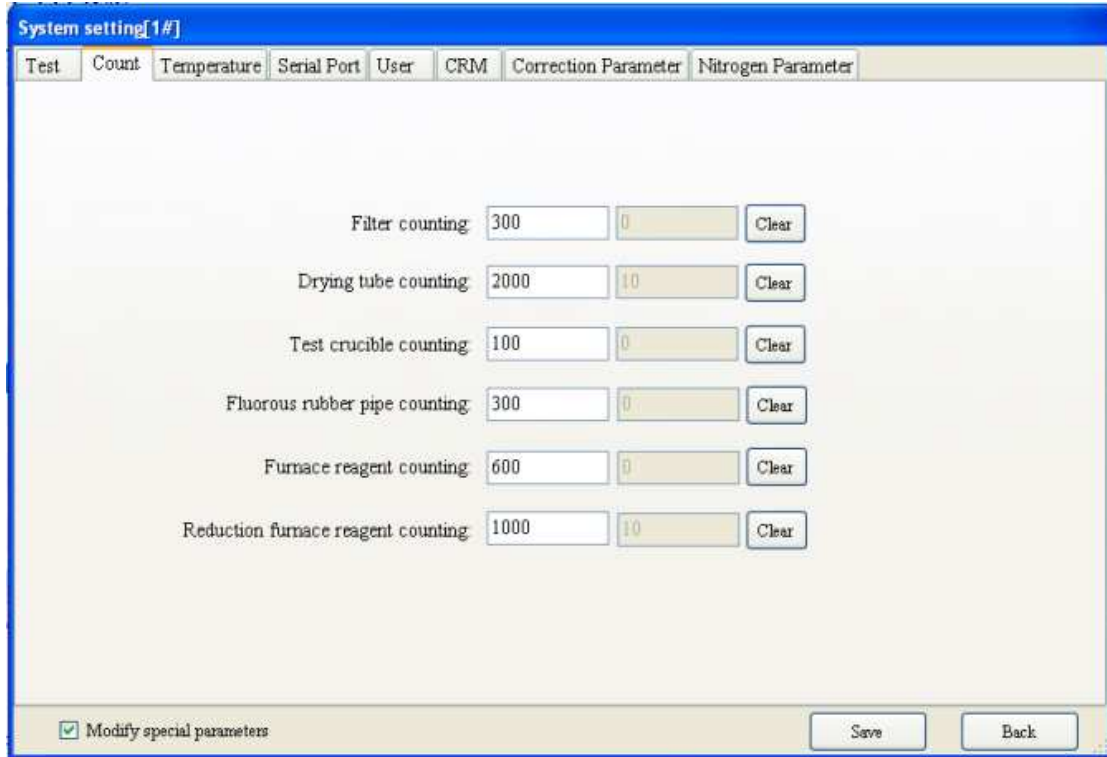

Fig4-3-3
- Complete combustion (K): set coefficient of judging whether the samples fully combusts or not.
1. Count: Click on “Count” tab in “System Setting” window, the window as Fig 4-3-3 will popup.